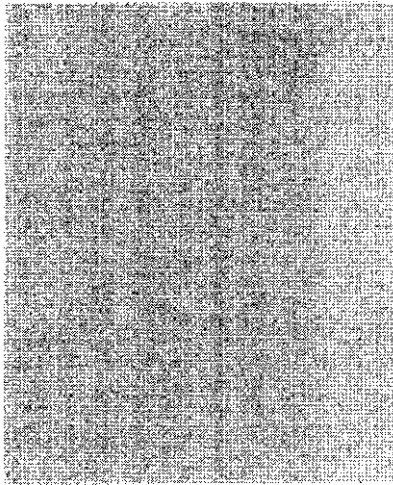

Figure 6. PIR Mounting Plate Knockouts
2. Punch out the mounting holes that best fit your application. See Figure 5 for wall mount options. See also Figure 6 to determine which knockouts to use when mounting the motion sensor. Use the lower-side holes for corner mounting, or the lower-back holes for surface mounting with the standard lens.
3. If you desire wall-tamper functionality, remove the wall-tamper knockout (see Figure 6).